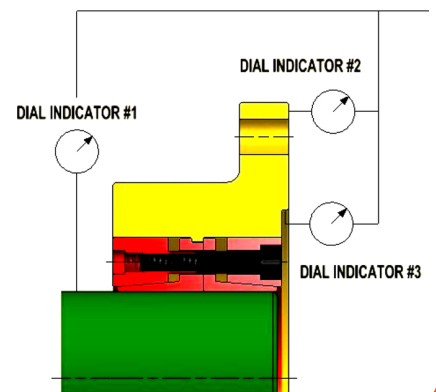

Fig. 5 Coupling half installed – check of runout
10. Using dial indicators, check the runout of shaft and coupling flange as illustrated in Figure 5.